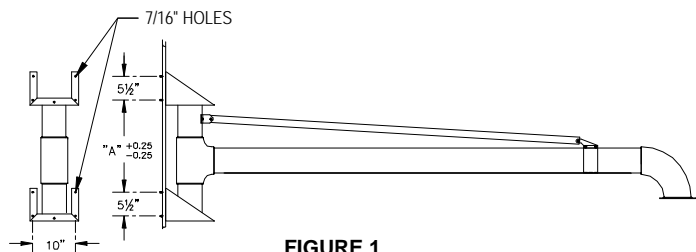

FIGURE 1
2. Using a forklift (or similar means) to position the Boom Arm up to the wall or vertical structure intended for installation, locate and drill 7/16" dia. mounting holes through the structure (**Figure 1**).